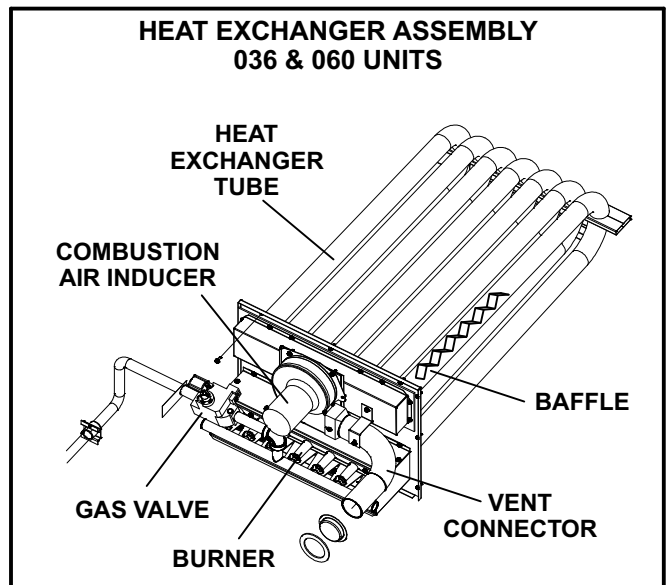

FIGURE 3
Annually, before heating season, inspect combustion air louvers, vent cap, heat exchanger, burners and combustion air blower for corrosion, deterioration or deposits of debris. Remove any obstructions or blockage. See figures 3 and 4.
- 3- Remove and retain four screws securing combustion air inducer to flue box. Remove and retain two screws from bracket supporting vent connector. See figure 3 or 4.